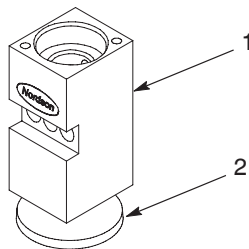

Figure 9-14 Module body on the base tool
- See Figure 9-14. Place the module body (1), with the pneumatic section pointing upward, on the base tool (2) supplied with the rebuild kit.